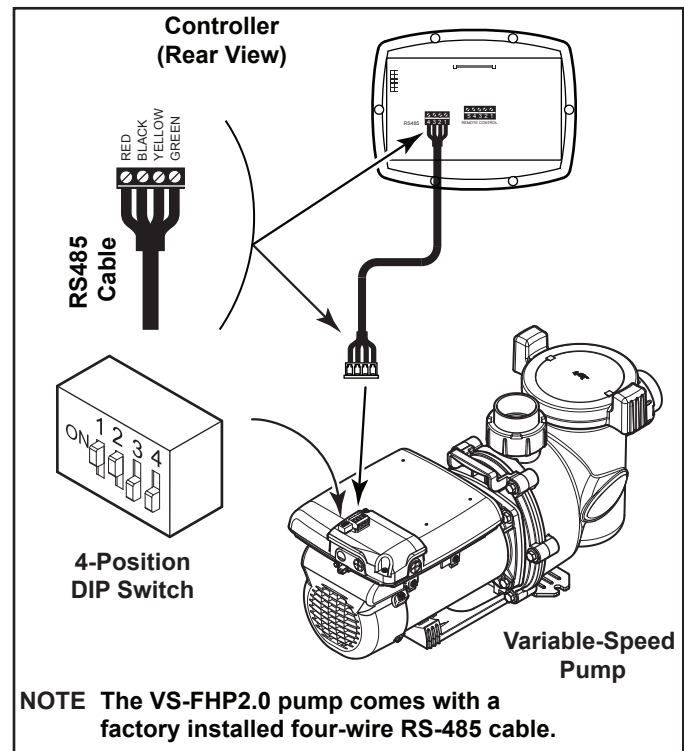

Figure 9. Wiring Variable-Speed Controller (JEP-R) to VS-FHP2.0 Pump
4. Attach the four (4) wires in the RS-485 cable to the RS-485 connector. Match the wire colors with the positions on the connector: 1- red, 2- black, 3- yellow, and 4- green. See Figure 9.
6. For the VS-FHP2.0, slide dip switches 1 and 2 up, so they are in the ON position, and slide switches 3 and 4 down, so they are in the OFF position. See Figure 9.
See Figures 9 and 10 for compartment's location details. An access cover with Phillips-head screw must be removed before proceeding.